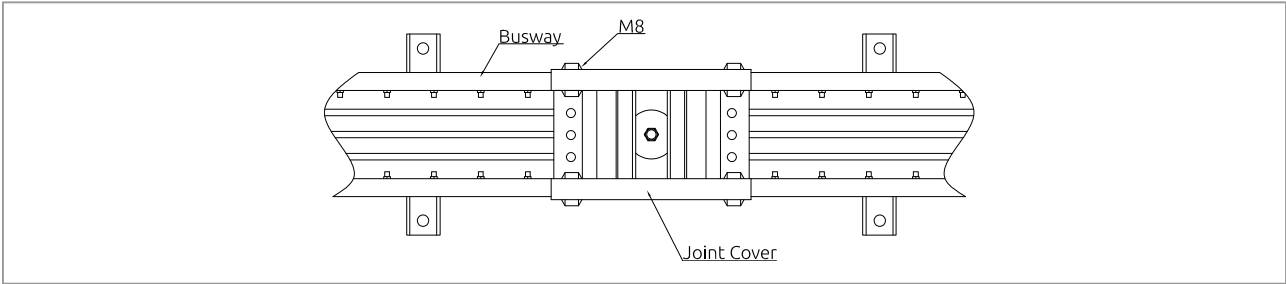

Figure 7.5
7. Install back the joint cover as shown in Figure 7.5. Complete installations.